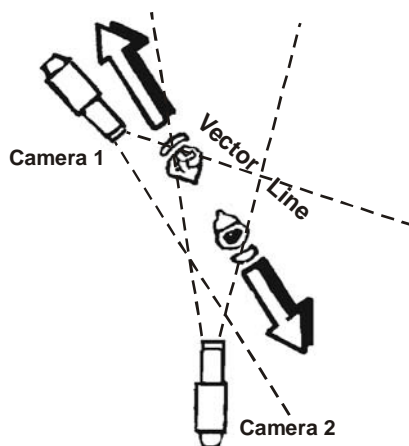

Figure F-12. Vector Line
d. As you view a video, you build up a mental image of where things are located within the scene. If, for instance, we see someone looking screen right and the picture cuts to another person looking screen left, we can assume that they are facing each other. With this in mind you can draw an imaginary line between the two, called the vector line or the 180-degree rule (Figure F-12). When shooting with a single camera for the reverse angle, you must shoot the reverse angle from the same side of the vector line. You cannot shoot one over the shoulder shot from the left side of the vector line, and shoot the reverse angle from the opposite side. When shooting with multiple cameras, the same rule would apply. Both cameras must be kept on the same side of the vector line in order to prevent jump cuts and to keep the audience from being confused.